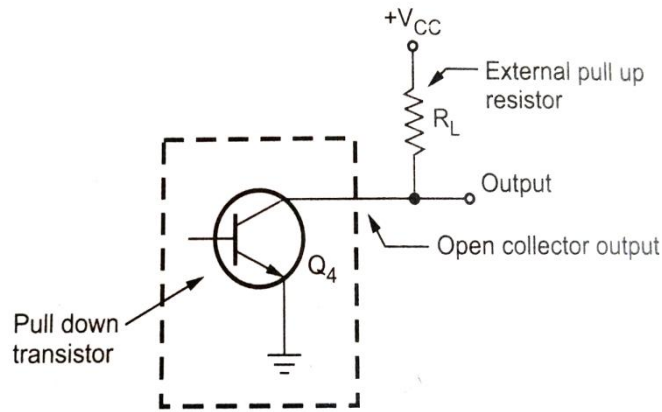

Figure 1.16: Open collector output with pull-up resistor
- Because the collector of Q4 is open, a gate like this will not work properly until you connect an external pull-up resistor, as shown in figure 1.16.